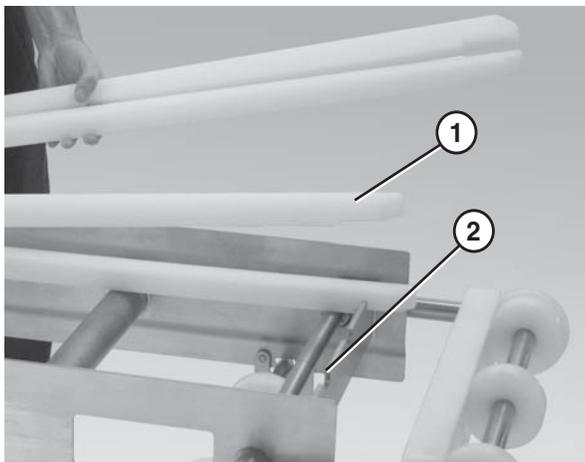

Figure 28
1. Position the wear strips (Figure 28, item 1) on the frame.
2. Make sure the wear strips are situated securely in the frame slots (Figure 28, item 2).